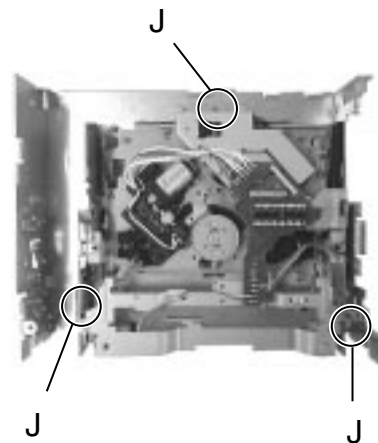

Fig 8
**■ CD mechanism assembly (See Fig. 8)**